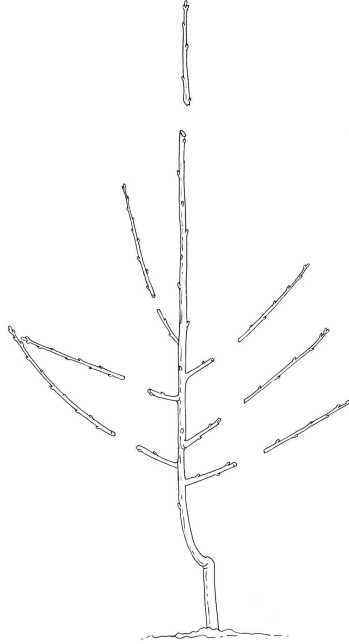

Figure 42
- If feathered trees are planted, the terminal is removed to enhance shoot growth and feathers are cut back to two or three vegetative buds (Figure 42).